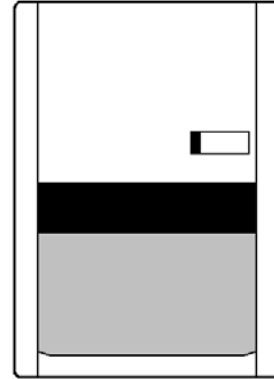

Figure 5.5 PIR Masking horizontal example
2. Place one strip of electrical tape horizontally across the top of the PIR lens (see Figure 5.5); this will cover the high beam.